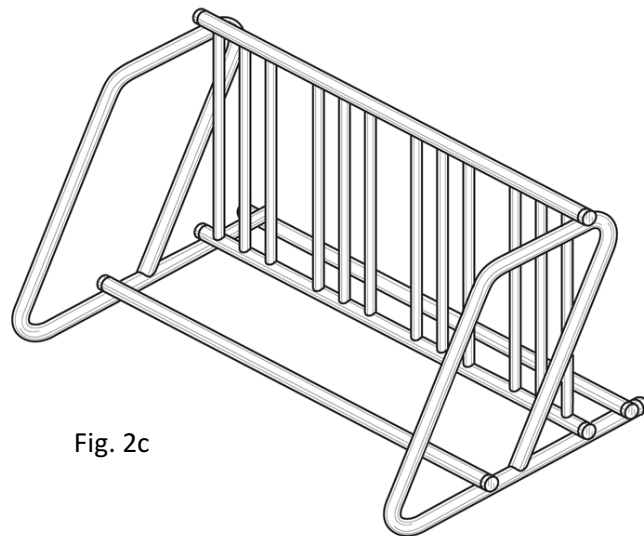

Fig. 2c
Step 4: Check that the parking stand is straight, then tighten all nuts securely using the wrench. Assembled parking stand should look like Fig. 2c. (note: model PS8 is shown in Fig. 2c).